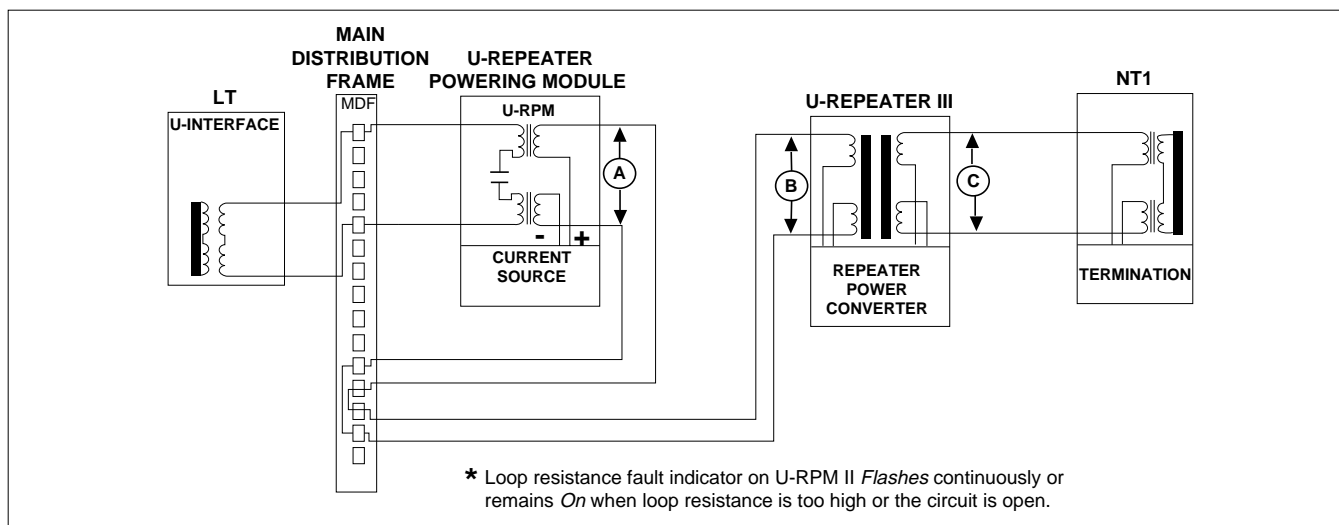

Figure 4. Typical U-Repeater III Circuit Voltage Test Points
4.9 **Figure 4** shows a typical loop originating at the LT U-Interface and terminating at the customer NT1. Use a digital multimeter to measure across the loop as demonstrated in the illustration.